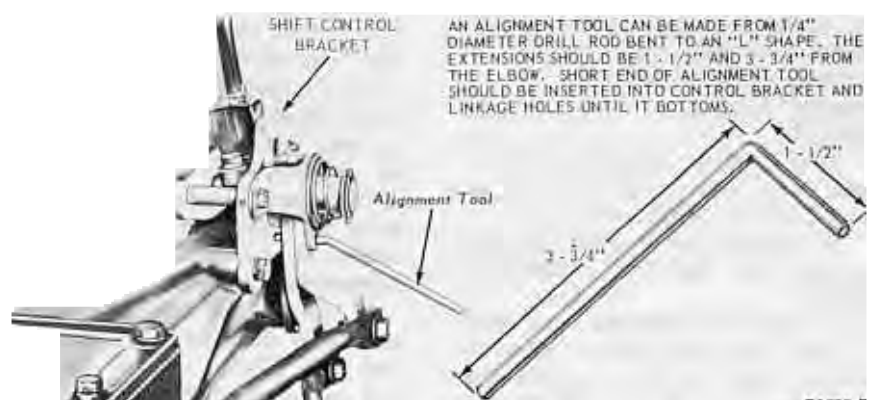

FIG. 3—Gearshift Linkage Adjustment—Mustang
1. Loosen the three shift linkage adjustment nuts. Install a 1/4 inch diameter alignment pin through the control bracket and levers as shown in Fig. 3.